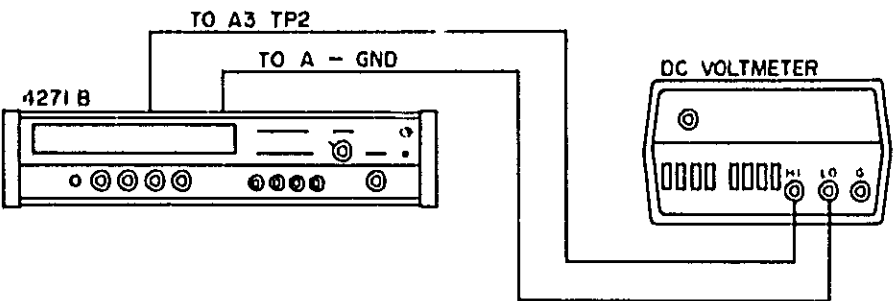

Figure 5-1. Power Supply Adjustment.
- b. Connect a dc voltmeter to TP2 and A GND on A3 board, as shown in Figure 5-1.